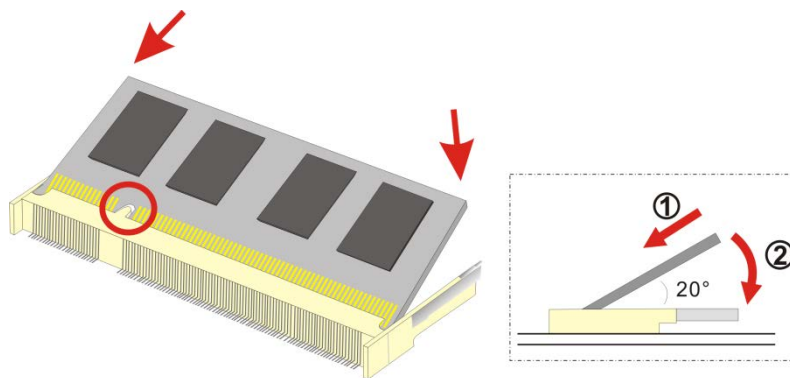

Figure 3-3: SO-DIMM Module Installation
Step 3: Install a SO-DIMM module by pushing it into the socket at an angle (**Figure 3-3**).
Step 4: Gently push the rear of the SO-DIMM module down (**Figure 3-3**). The spring retainer clips clip into place and secure the SO-DIMM module in the socket.